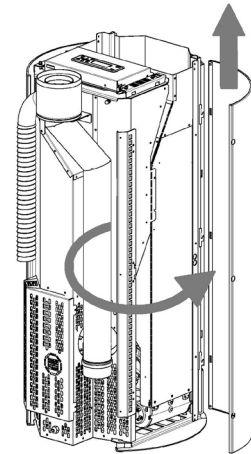

Fig. 74 - Removing the side panel
- Open the side and release it from the teeth (see **Fig. 74**).